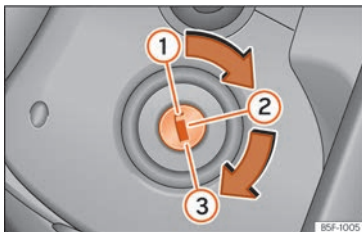

Fig. 240 Ignition key positions.
»» Fig. 240.
- Remove the key from the ignition in position ① »» Fig. 240 »» ⚠.